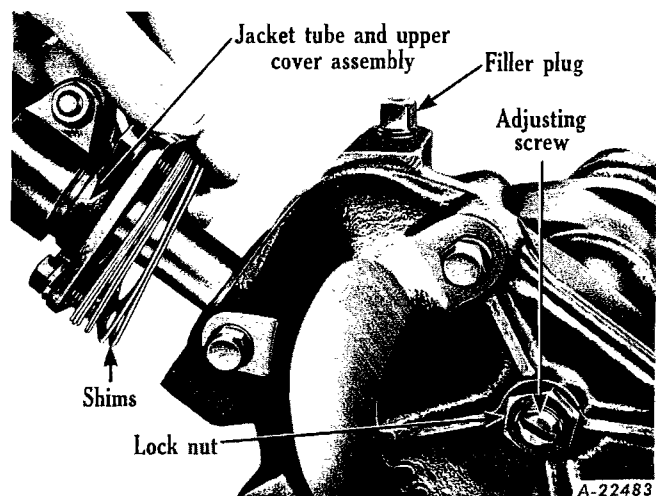

Fig. 5 - Showing location of shims under upper housing cover used to adjust end-play on cam. (Shims are of .002", .003", and .010" thickness)
- (c) Unscrew the four screws (3) and raise the housing upper cover (4) to permit removal of shims (5). (Shims are of .002", .003" and .010" thickness) (Fig. 5).